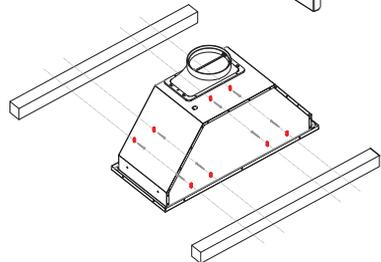

Figure 2
- 1 The hood has to be installed inside the cabinet. It is recommended to install a front and rear stud support. Refer to Figure 1 and Figure 2.